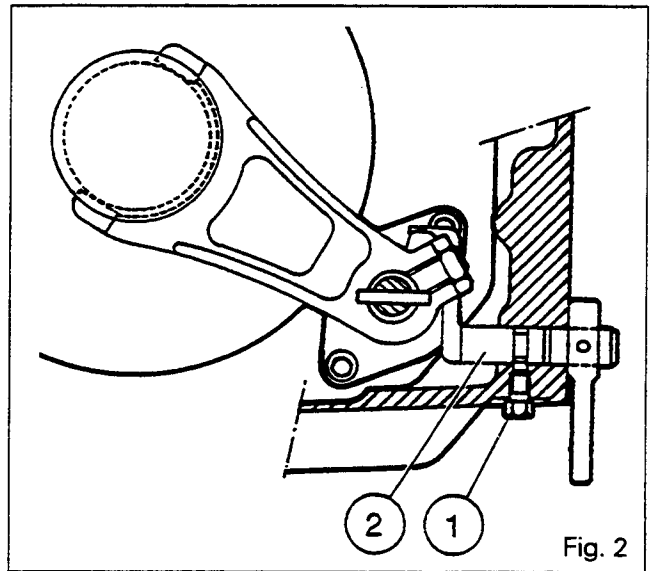

Fig. 2
17. Disconnect the creeper gear control (if fitted) and then remove the bolt (1) and pull the rod (2) towards the outside to release the finger from the fork (Fig. 2).